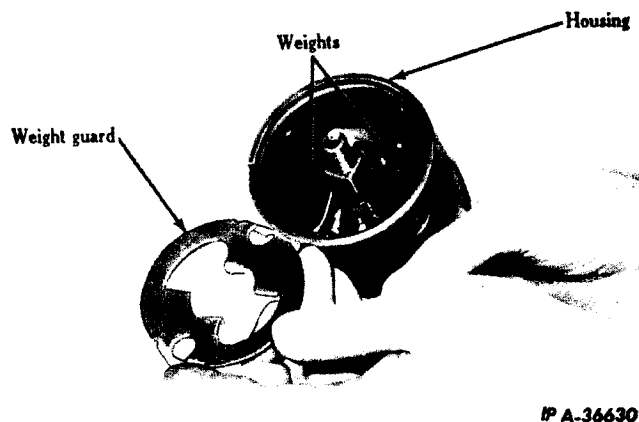

Fig. 11 - Remove Weight Guard.
12. Remove the governor weight guard by removing the two slotted screws and lifting the guard out (Fig. 11).
14. Install the weight guard and secure it with two slotted screws (Fig. 11).